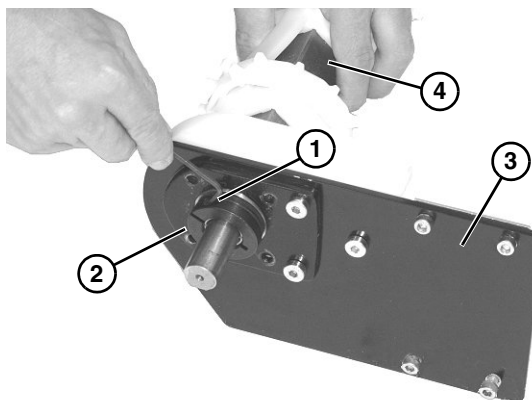

Figure 27
7. Loosen the bearing collar set screw (**Figure 27, item 1**) and remove bearing collar (**Figure 27, item 2**).
8. Remove plate (**Figure 27, item 3**) from drive spindle (**Figure 27, item 4**).